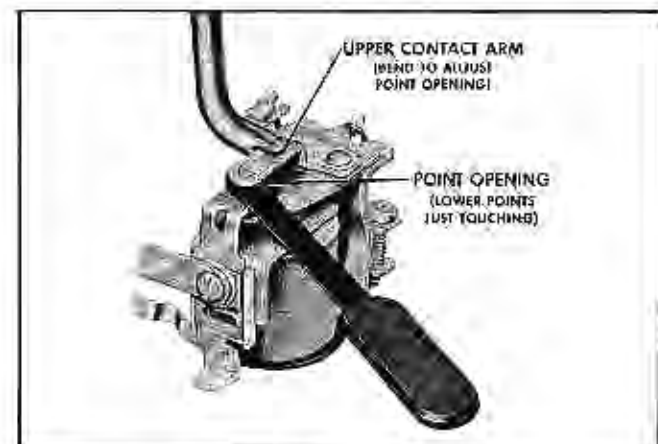

Fig. 11-41 Point Opening Adjustment
1. Push armature down until the lower set of contacts are just touching, measure point opening between upper set of contacts (Fig. 11-41). Point opening should be .016".